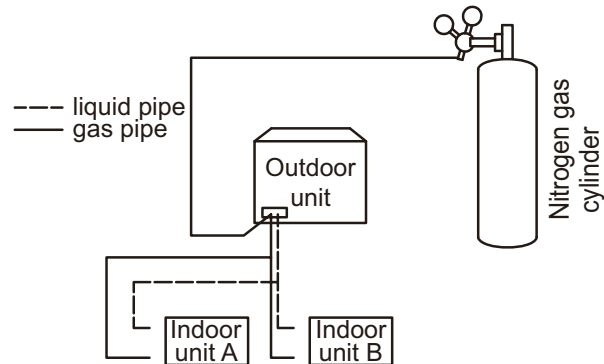

Fig. 49 – Flushing the Openings
4. Use blind plugs to block all liquid (gas) side openings, except for the opening at the indoor unit which is furthest from the outdoor units (“Indoor unit A” in Fig. 49).